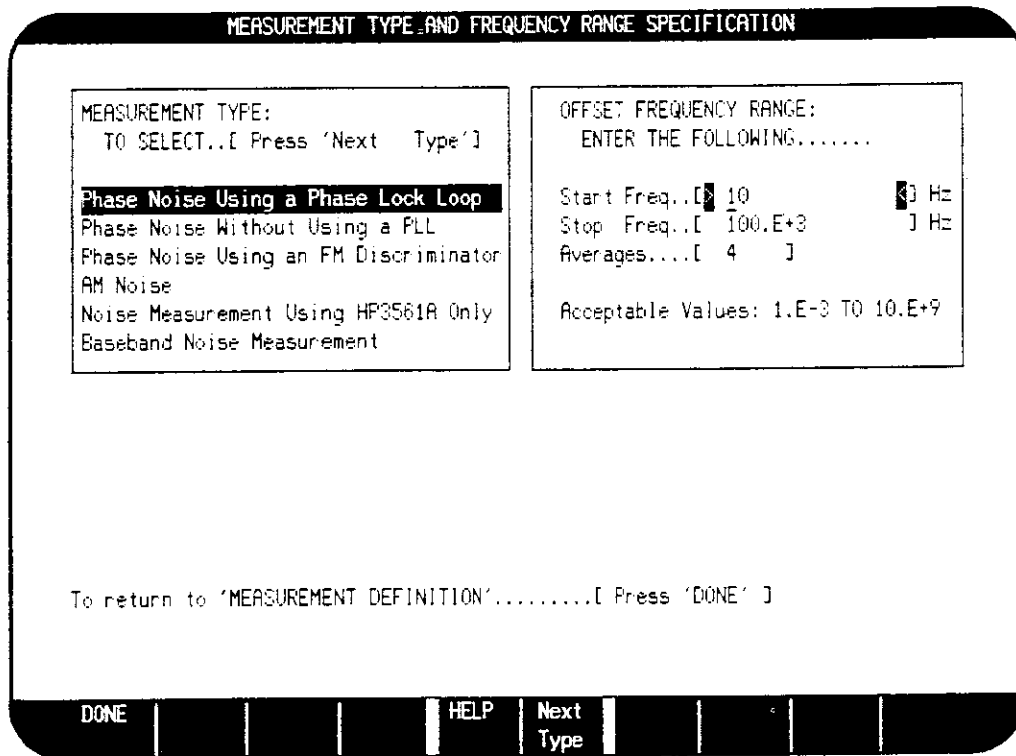

Figure 8-8. Measurement Type and Frequency Range Specification Menu
- On the HP 3048A press the **Type / Range** softkey to obtain the Measurement Type and Frequency Range Specification menu. Set the measurement type and offset frequency range as shown in figure 8-8. When done, press the **DONE** softkey.